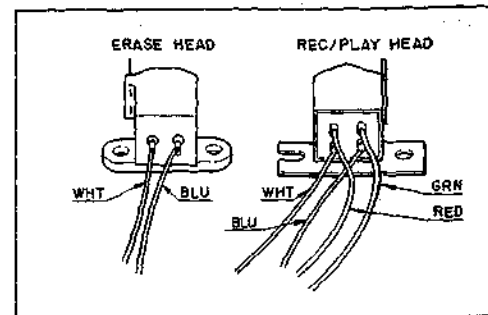

Fig. 7 Head Wiring Diagram
3. Remove the Head Protector (1) by taking off the 2 screws (2).
4. Unsolder the wires from the head terminal pins (3).
5. Remove the Head (4) by taking off the nut (5) and the screw (6).
6. Re-solder each head wire to the newly replaced head as shown in Fig. 7.
3. Unsolder the wires from the head terminal pins (7).
4. Remove the Head (8) by taking off the 2 screws (9).
5. Re-solder each head wire to the newly replaced head as shown in Fig. 7.